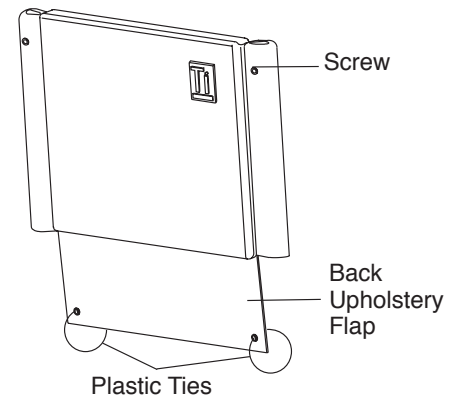

Figure 38
2. Cut the plastic ties that secure the bottom of the back upholstery to the frame. See Figure 38.
3. Remove the screw that secures the upholstery to each back cane. See Figure 38.